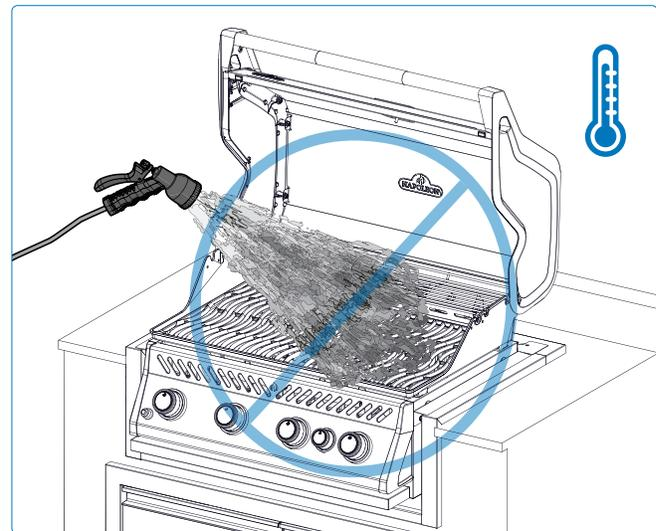

Fig. 17
1. Never use water to douse flames or control flare-ups (**Fig. 17**)